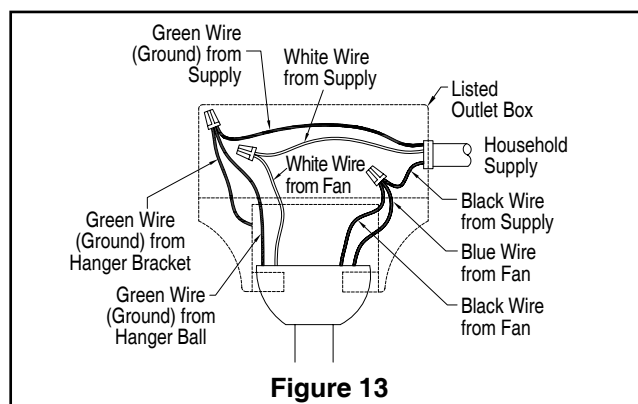

Figure 13
- ☐ 3. After splicing and making the wire connections, the wires should be spread apart and turned upward with the grounded conductor and the equipment-grounding conductor on one side of the outlet box and the ungrounded conductor on the other side of the outlet box. (Figure 13)